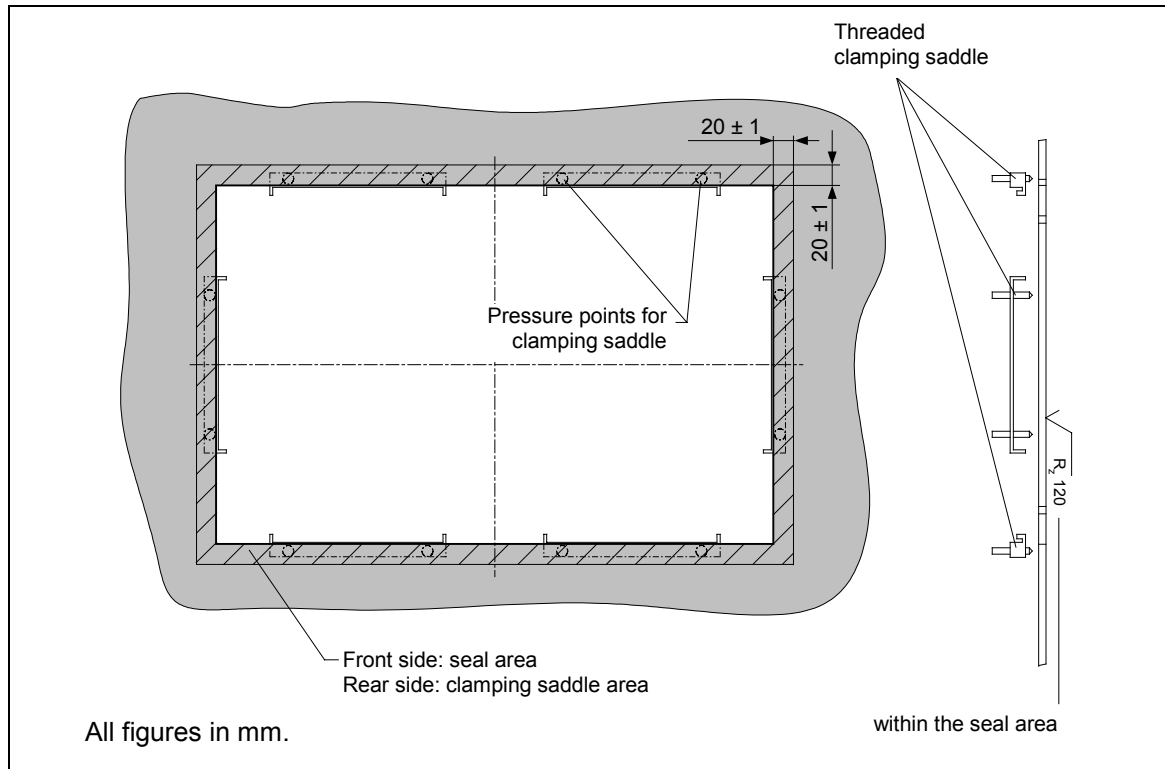

Figure 1–3 Dimensions for installation of the Panel PC IL
2. Hang on the clamping saddles as shown in Figure 1–4.